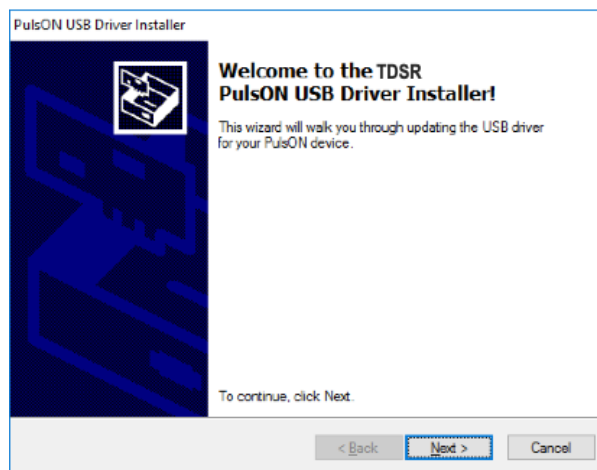

Fig. 16: USB driver installation screen
8. During the CAT installation process, the USB drivers will be loaded. This process starts when the screen shown in **Figure 16** appears.